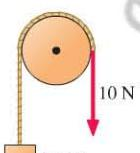

FIGURE P7.62
62. **III** A 1.5 kg block is connected by a rope across a 50-cm-diameter, 2.0 kg, frictionless pulley, as shown in Figure P7.62. A constant 10 N tension is applied to the other end of the rope. Starting from rest, how long does it take the block to move 30 cm?